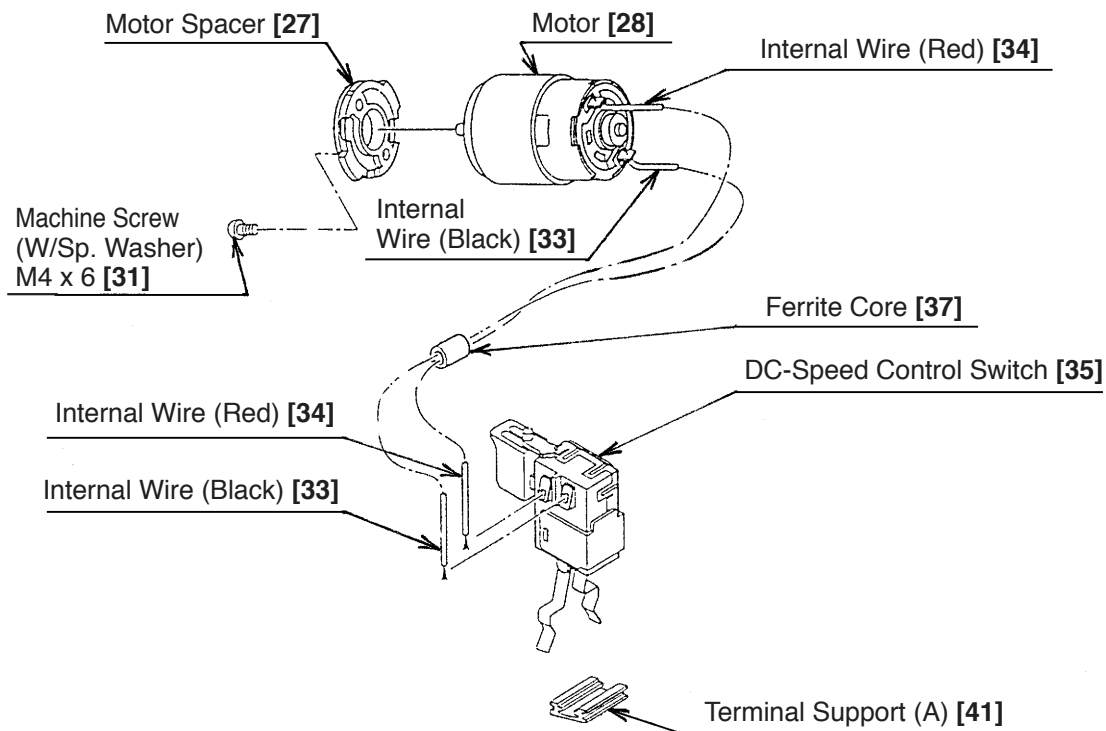

Fig. 6
(1) Reassembly of the power supply unit
- (a) Be sure to perform wiring connections as indicated in the wiring diagram. (See Fig. 6.)